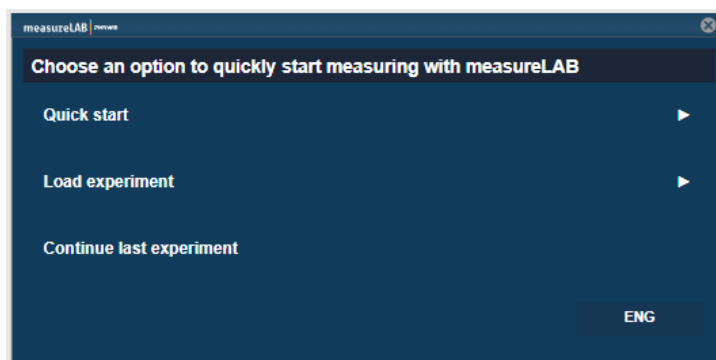

Figure 1: Getting started
After starting measureLAB, the software will automatically detect all connected sensors. To start a measurement, you have three options (Figure 1):
Home button (2): Brings you back to the main window (Figure 1) to load a new experiment or continue a previous one.